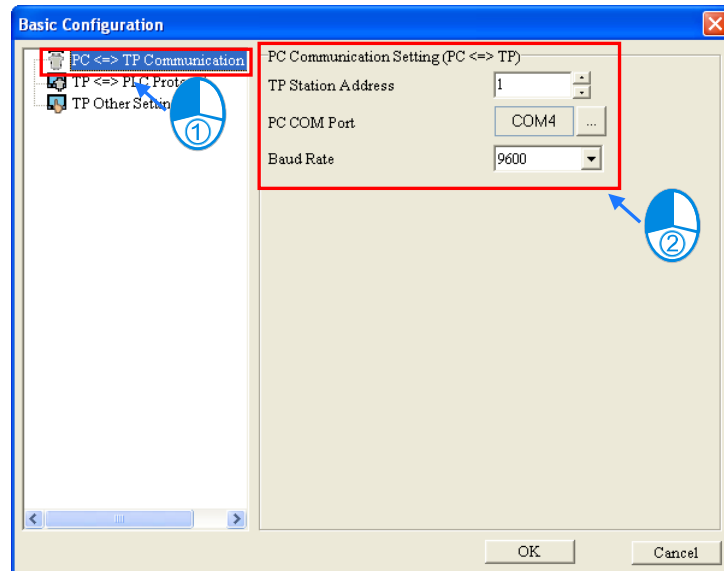

Figure 3-13 Basic Configuration window
**Basic Configuration** on the **Tool** menu is used to set the text panel used. Users can set **PC $\leftrightarrow$ TP Communication Setting**, **TP $\leftrightarrow$ PLC Protocol**, and **TP Other Setting**. The items which can be set vary with the model used. After the users click **Basic Configuration** on the **Tool** menu, the **Basic Configuration** window will appear, as shown in Figure 3-13.
- **PC<=>TP Communication Setting:** Users can set the communication between a TP series text panel and the computer. The value in the **TP Station Address** box is in the range of 0 to 255, and must be the same as the station address of the TP series text panel used. The communication port in the **PC COM Port** box is the communication port connected to the computer. The value in the **Baud Rate** drop-down list box is in the range of 9600 to 115200. Please see Figure 3-13.